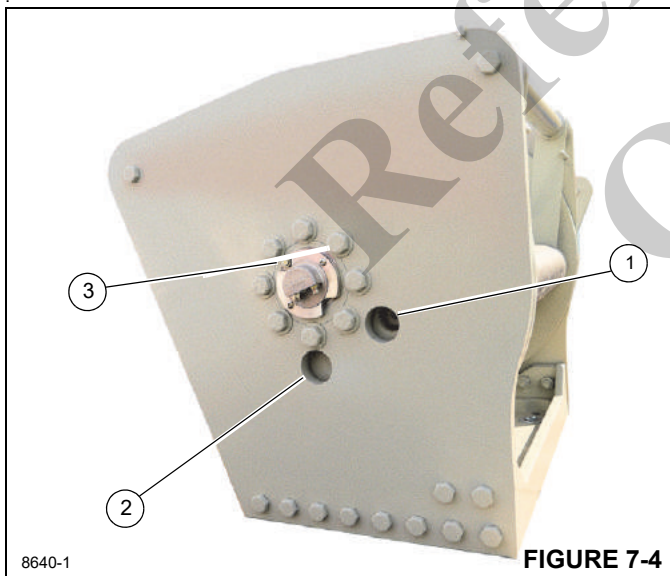

FIGURE 7-4
- Rotate the drum until the oil fill/level plug (1, Figure 7-4) is visible in the inspection hole.
- Remove the fill/level plug (1) and visually inspect the oil level. The oil should be level with the bottom of the inspection/fill hole. If more oil is needed, add oil (See Table 7-2).
- To drain and add new oil, remove the vent plug (3, Figure 7-4) and then screw a 1" pipe into the drain plug hole (2) to allow the oil to drain. Remove the drain plug (2) with a hex head socket and drain hydraulic oil. Remove the 1" drain pipe and install drain plug (2).
- To fill with oil, rotate the drum so the gearbox fill/level port (1, (Figure 7-4) is visible through the upper hole.
- Remove fill/level plug (1) with a hex socket.
- Install a 1" pipe with elbow into the fill hole (1) to assist with adding oil.
- Remove the vent plug (3) to assist with adding the oil.
- To drain and add new oil, remove the vent plug (3, Figure 7-4) to assist with draining the oil.
- Remove the drain plug (2) with a hex head socket.
- Install oil drain plug (2).
- Install the inspection plug (1).